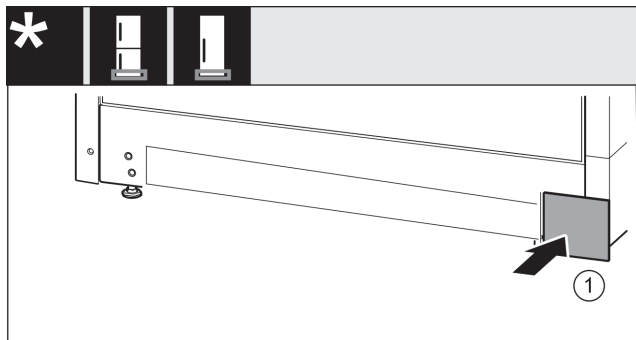

Fig. 32
- Re-attach the cover Fig. 32 (1) to the other side.